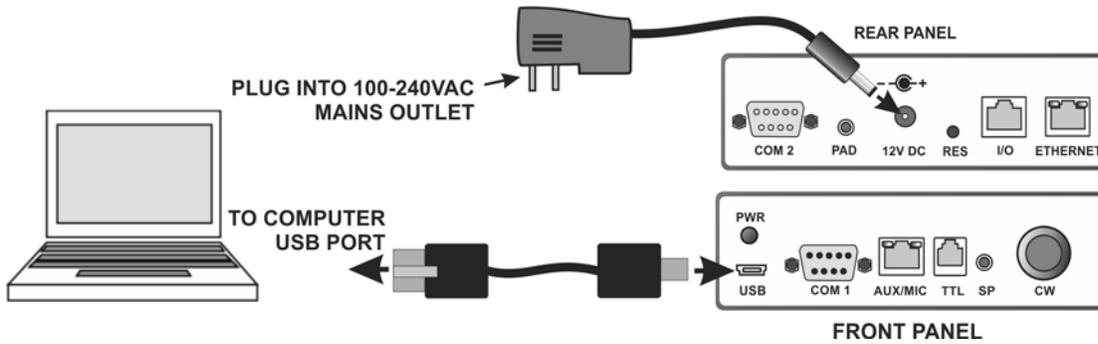

Figure 1
2. Connect your computer and power to *one* of the RR-1256 units (see Figure 1).